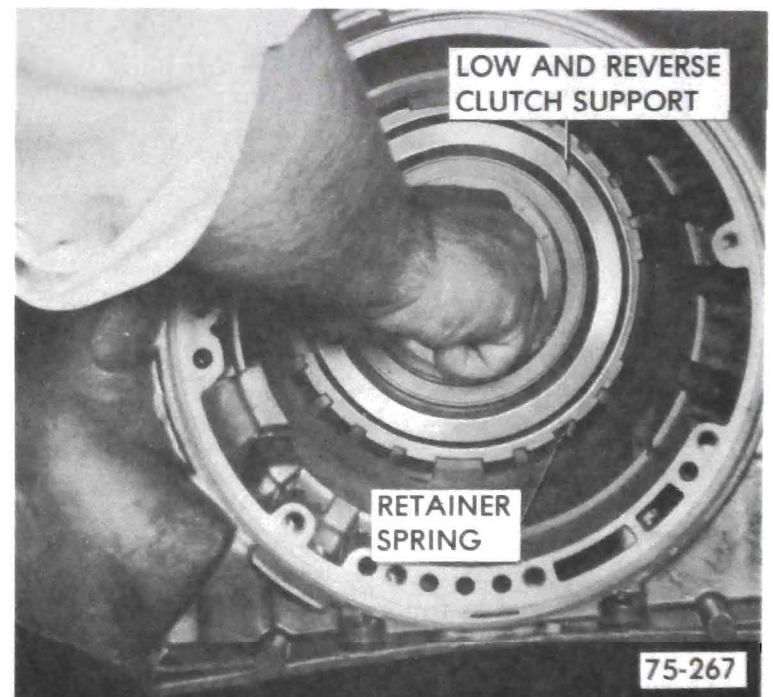

Figure 75-106
2. Grasp output shaft and pull up until low and reverse roller clutch and support assembly clear low and reverse clutch support retainer spring and remove support assembly. See Figure 75-106.